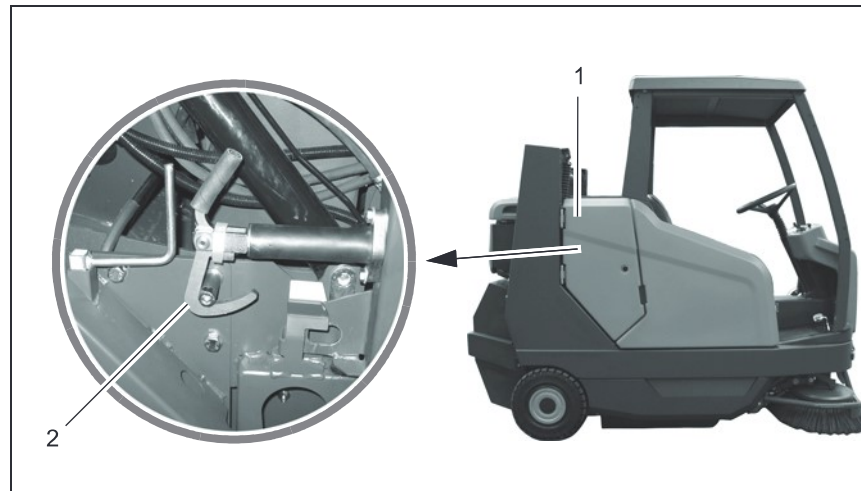

Fig.23
2. Open the side panel (Fig. 23/1) using a square wrench.
3. Unlock the lock (Fig. 23/2). Pivot the seat console up.